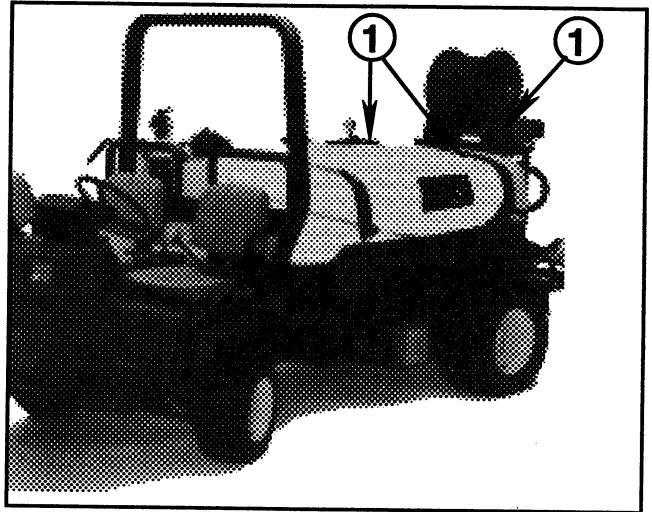

FIG. 15
1. The WARNING Decal must be applied in (3) locations as shown in FIG. 15. Apply (1) Decal on each side of the rear Spray Tank Band and (1) Decal on the Hose Reel, if so equipped.